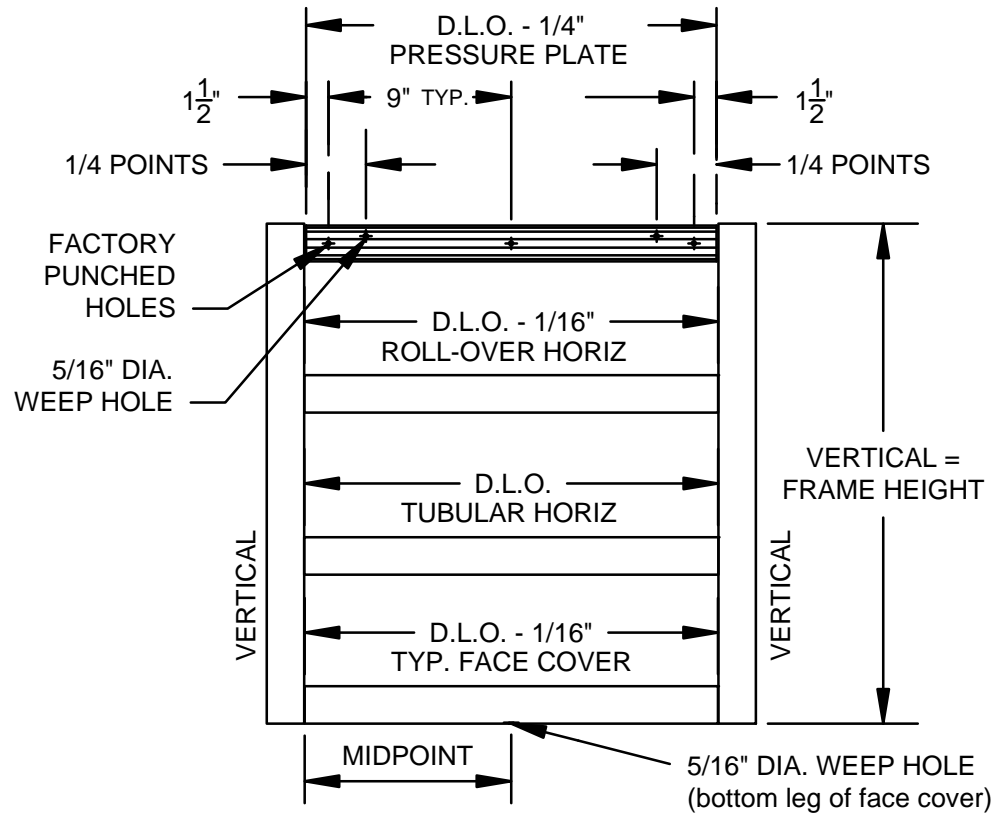
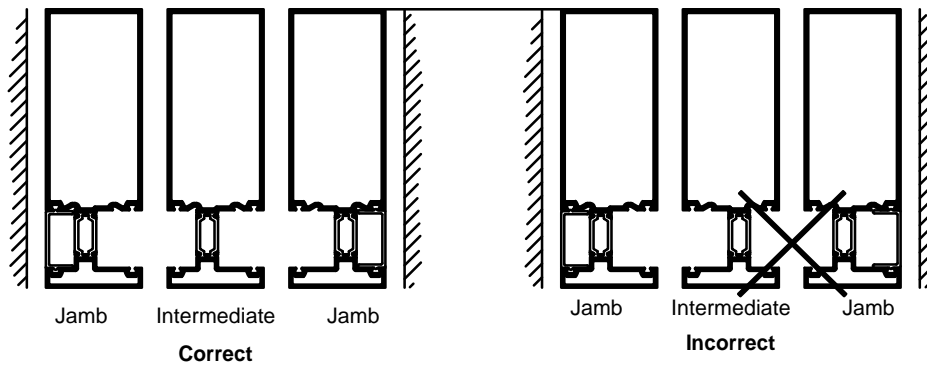

FIGURE 1
FIGURE 2
- 1.2 Cut material to size. SEE FIGURE 1, page 9 for guide. NOTE: Layout vertical mullions so that two shallow pockets will not be adjacent to each other. SEE FIGURE 2, page 9 for MULLION LAYOUT.